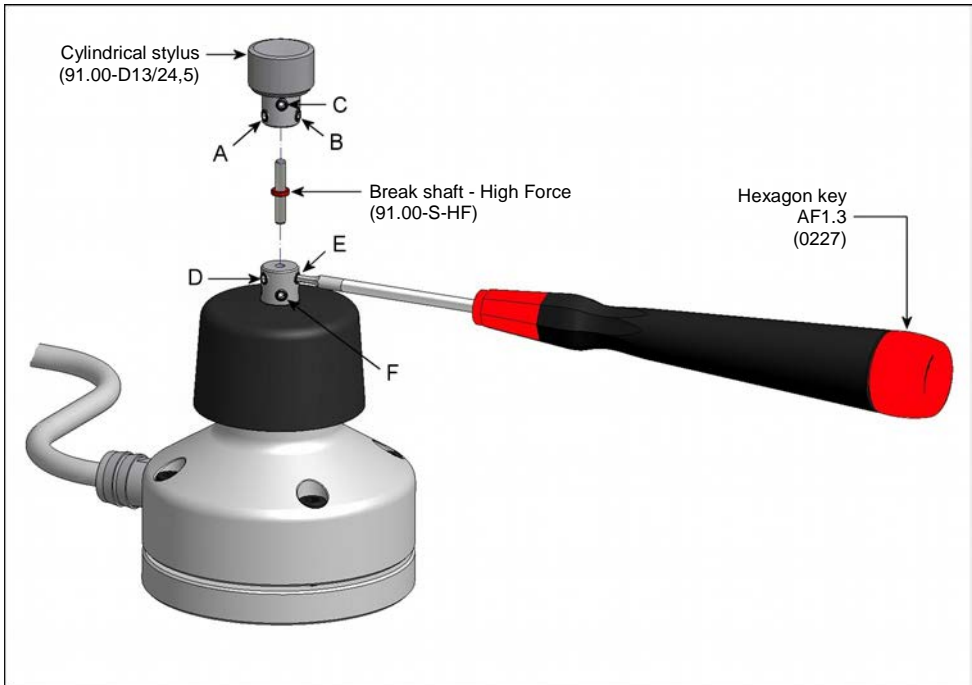

Fig. 5 Stylus Change
3. Insert the tube fitting with sealing ring in a appropriate bore ($\varnothing 16.2$) in the machine wall and secure on the back with the related nut (refer to Fig. 5).